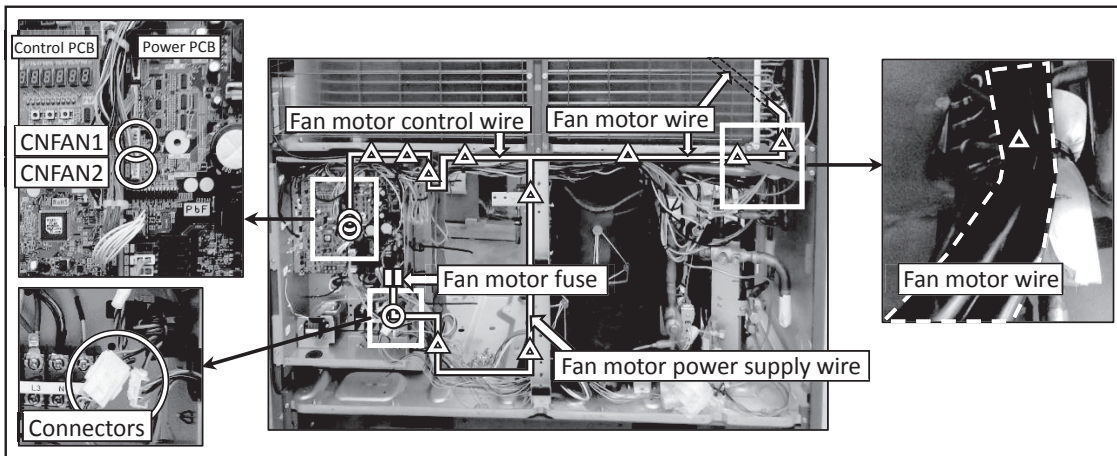

Fig.4 Wiring of the fan motor
(2) Remove wiring of the fan motor.
- (a) Remove bands that hold wiring of the fan motor. (△mark, Fig.4)
- (b) Remove motor wiring connectors. (○mark, Fig.4)